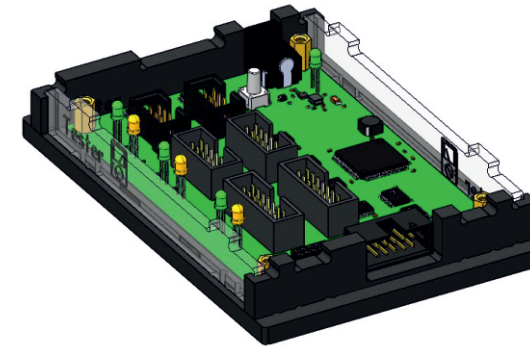

Fig. 85: Securing two panels
4) Secure two transparent panels to the bottom base plate. To do that, slide each panel along guide rails in walls until it touches the bottom base plate, then latch it (Fig. 85):